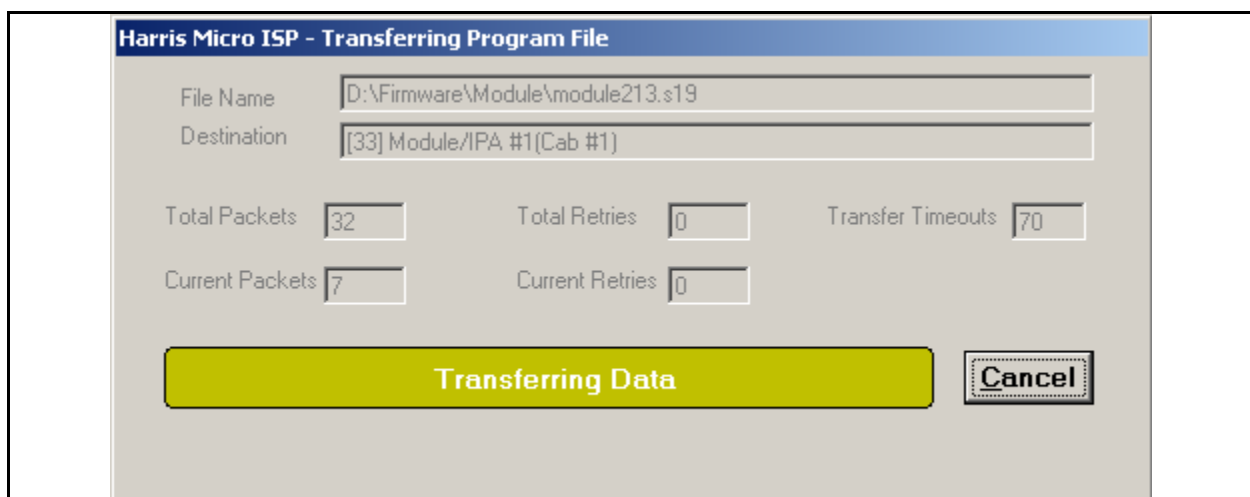

Figure 6-13 Data Being Transferred (will take several minutes)
- STEP 10** Press Program. This will open the window in Figure 6-13 which monitors the transfer process. This will take several minutes.